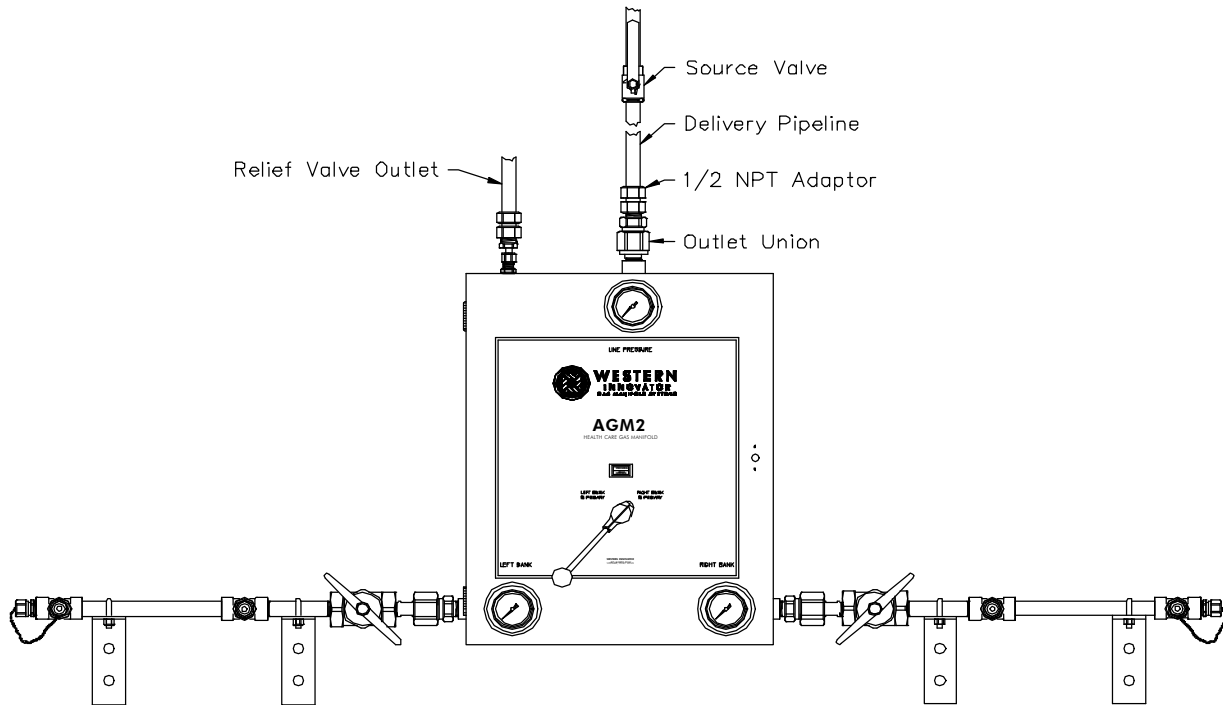

Figure 7
1. An outlet union is supplied with the manifold. The 1/2 NPT end of the outlet fitting shall be attached to the delivery piping using Teflon® tape. (Figure 7)
2. Connect the outlet union to the manifold outlet nut and nipple. (Figure 7)
1. The relief valve outlet union is supplied to connect to the vent piping. The 1/2 NPT relief valve union shall be attached to the vent piping using Teflon® tape. (Figure 7)